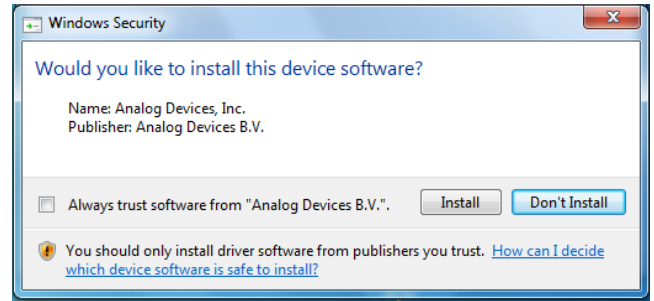

Figure 12. Granting Permission to Install Drivers
3. Click **Install** (see Figure 12).